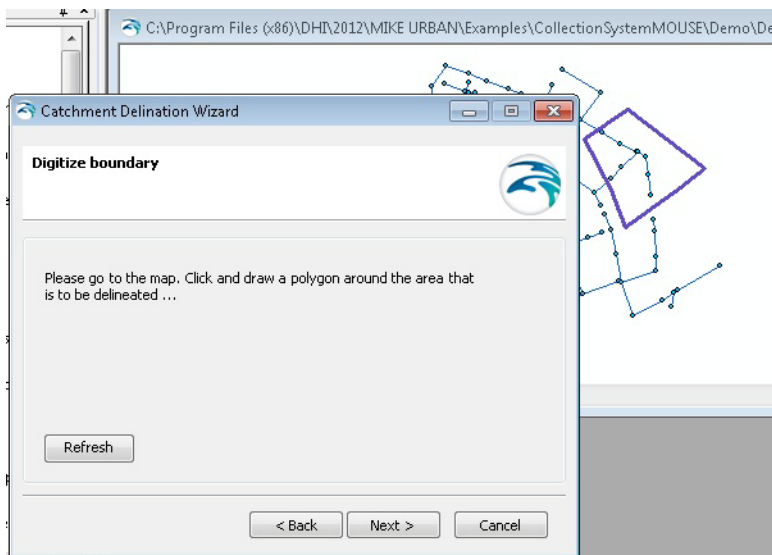

Figure 13.16 Digitizing the boundary to be used
- Digitize the boundary manually directly in MIKE URBAN. If this method is selected the next step in the wizard will be to draw the boundary directly in the horizontal plan - end the polygon by double clicking. See Figure 13.16.